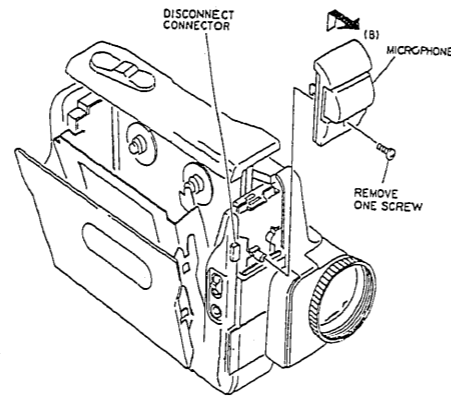

Fig. 3-3
- (5) Remove one (1) screw holding the MIC. (See Fig. 3-3)
- (6) Remove the MIC in the direction of arrow (B) and disconnect connector CN001 on the jack circuit board.